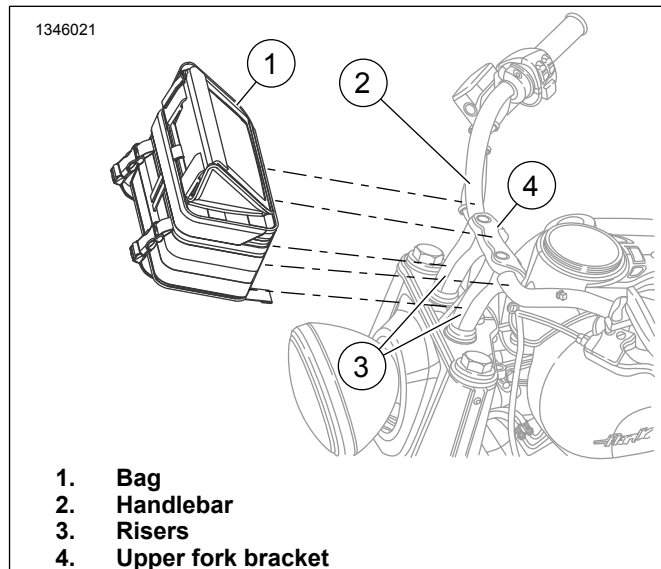

Figure 3. Bag and Hook-and-Loop Attachment
2. See Figure 3. Secure hook-and-loops on bag to handlebar (2), risers (3) and upper fork bracket (4).